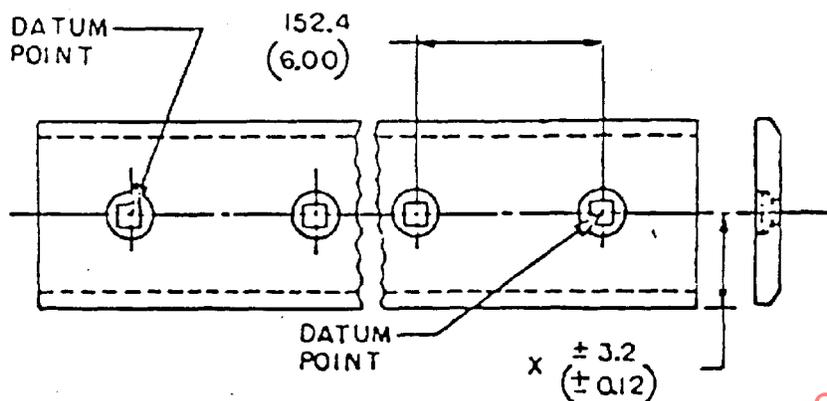

FIGURE 1—TOLERANCES AND DIMENSIONS FOR HOLE LOCATIONS
**3. Tolerances and Dimensions For Hole Locations**—(See Figure 1)